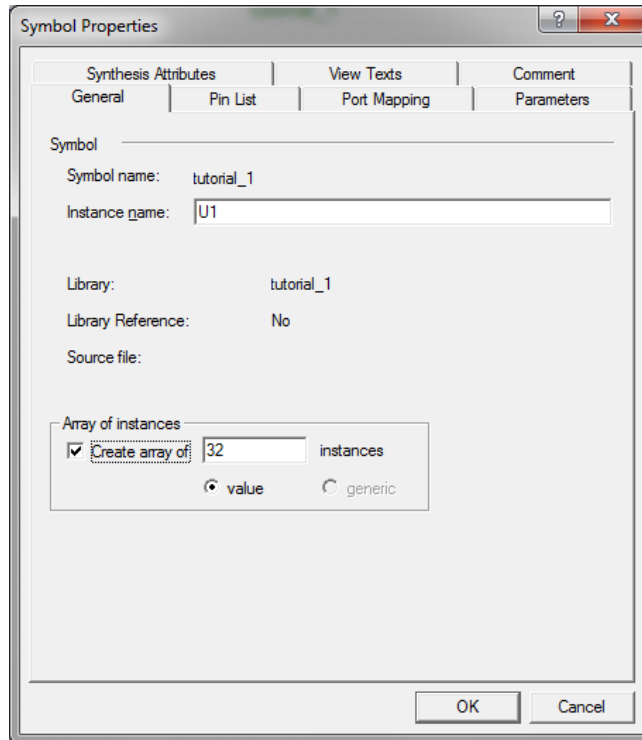

Figure 13
4. Under the heading “Array of instances” on the ‘General’ tab, select the “Create array of (#) instances”, and enter 32 in this field. (See Figure 13)